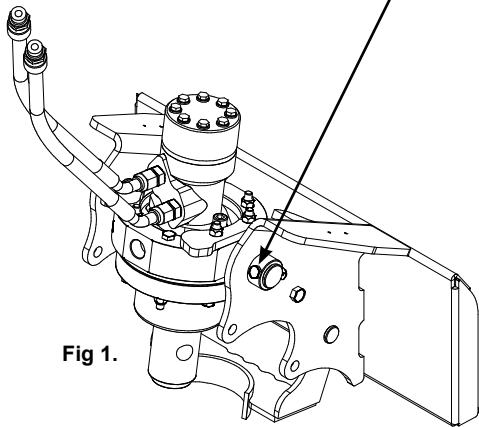

Fig 1.
2. To remove the drive unit from the frame, remove the 2 X M10 X 60mm long bolts and nyloc nuts (Fig 1. pg29)